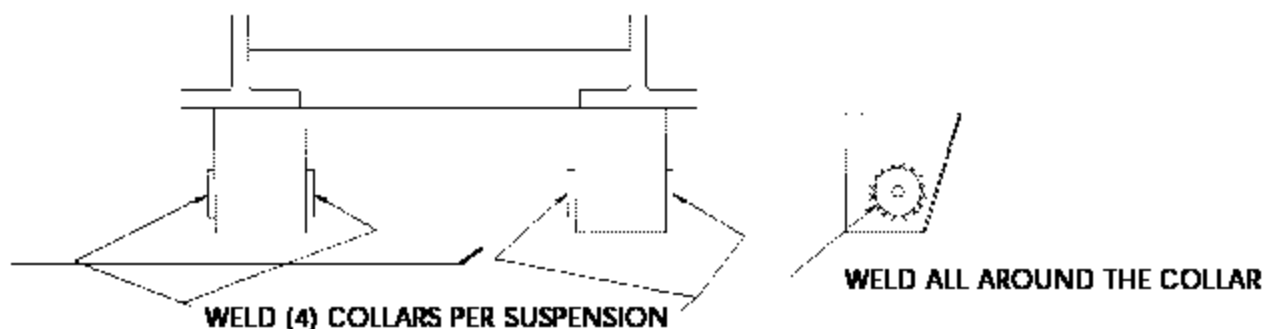

Figure 6 -Welding locations on welded collars
8. Check the weld on the alignment collars; the weld should be a 1/4" fillet weld that goes all around the collars (Figure 6).